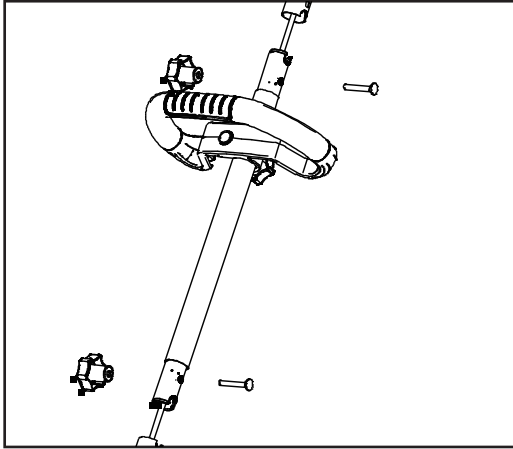

Fig. 2
2. Align the screw holes (Fig.2).